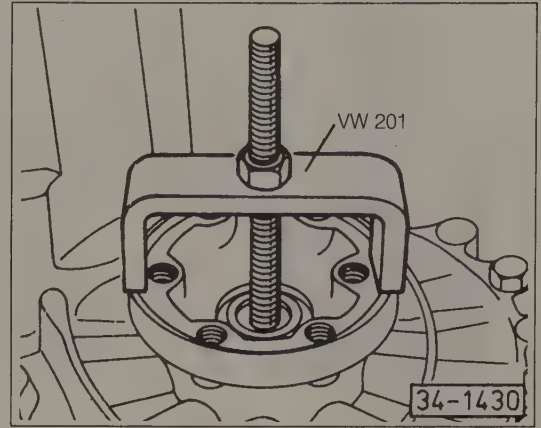

Fig. 6-6. Drive flange being installed. Installation tool shown (VW 201) threads into shaft.
6. Install the drive flange as shown in Fig. 6-6.